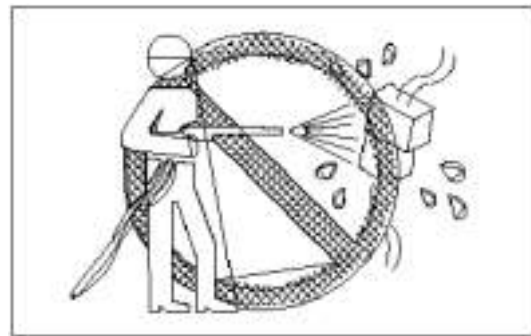

Figure 1-34 Keep the machine clean
b) If inspection and maintenance is done when there is mud or greasy dirt on the machine, there will be risk of slipping, or dirt may enter the eyes. Therefore, the machine should always be kept clean, as shown in Figure 1-34.